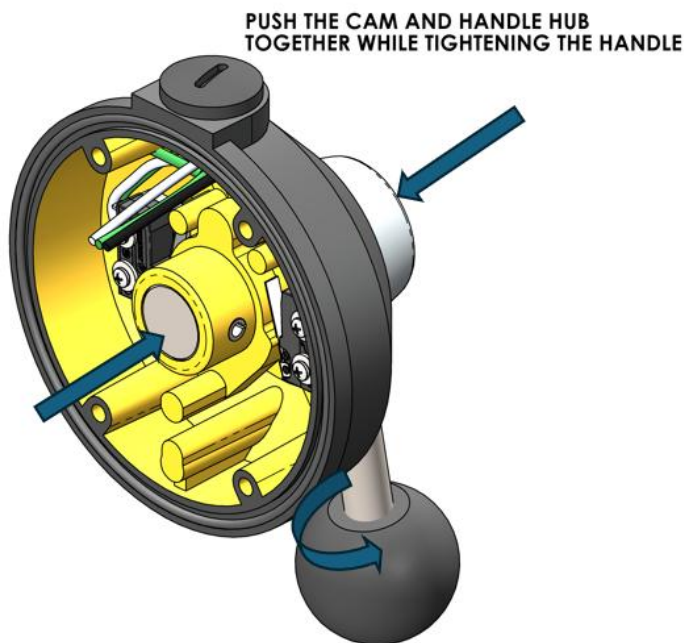

Figure 24: Installing cam assembly into jog
20. Put light pressure on the cam shaft and the handle hub pushing the two together to remove any axial play on the cam shaft assembly as shown in Figure 24.
21. Using the vise grips and brass shim stock as done in step 8, tighten the handle shaft secure onto the hub pushing the handle hub and cam shaft together at the same time as shown in Figure 24.